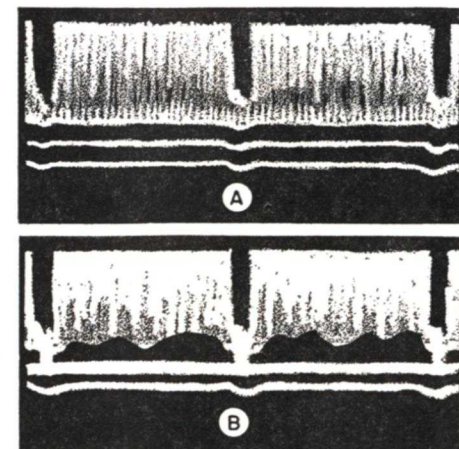

FIG. 24. Traces representing two fields (A) and two lines (B), taken from the video amplifier.
**Video Amplifier Tracing.** The signals shown in Fig. 24 are typical of those that you might see in the video amplifier. The trace in part A of this figure shows what you will see if the oscilloscope sweep rate is 30 cycles; therefore, the two major traces seen in this figure represent two fields, and the empty area between them represents the blanking that occurs between fields. All of the lines in each field are mixed up in this kind of trace, so it gives you little information about the true nature of the video signal itself. It does give you a general idea of the appearance of the signal, however, and records the vertical blanking period with reasonable faithfulness. Also, you can use such a trace to measure the peak-to-peak value of the signal. It is
**Summary.** Keep in mind that the oscilloscope traces we have shown in Figs. 24 to 30 are typical for only one kind of set. You will find quite different signals in other sets, and until you become accustomed to the signals that are to be seen, you should always refer to the manufacturers' information to learn what the typical wave shapes and peak-to-peak voltage values are.